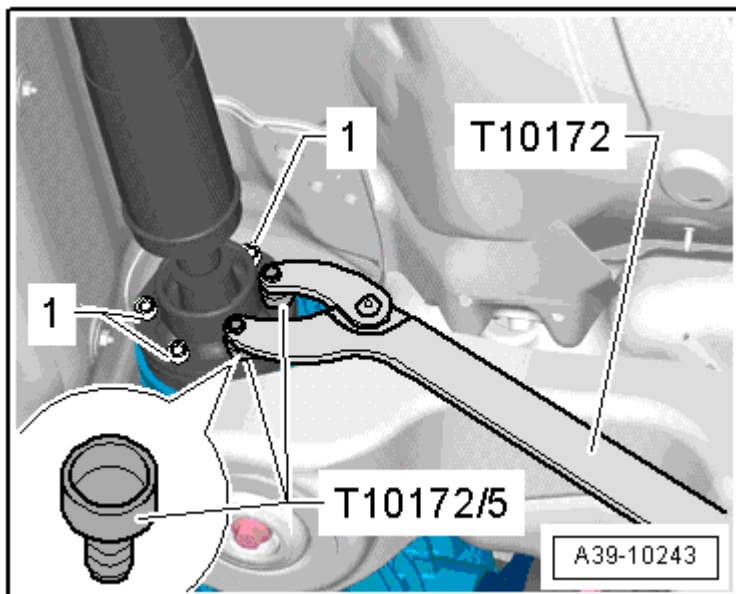

Fig. 3: Counter Hold Using Counterhold Tool Touareg V10 T10172 And Adapters T10172/5
- Possibly located between an internal multi-point bolt -item 5- **DRIVESHAFT BOLTED ON TRANSMISSION-SIDE OVERVIEW** and a backing plate -item 6- **DRIVESHAFT BOLTED ON TRANSMISSION-SIDE OVERVIEW** on the rear final drive
- Tightening specification and sequence, refer to **Fig. 3**